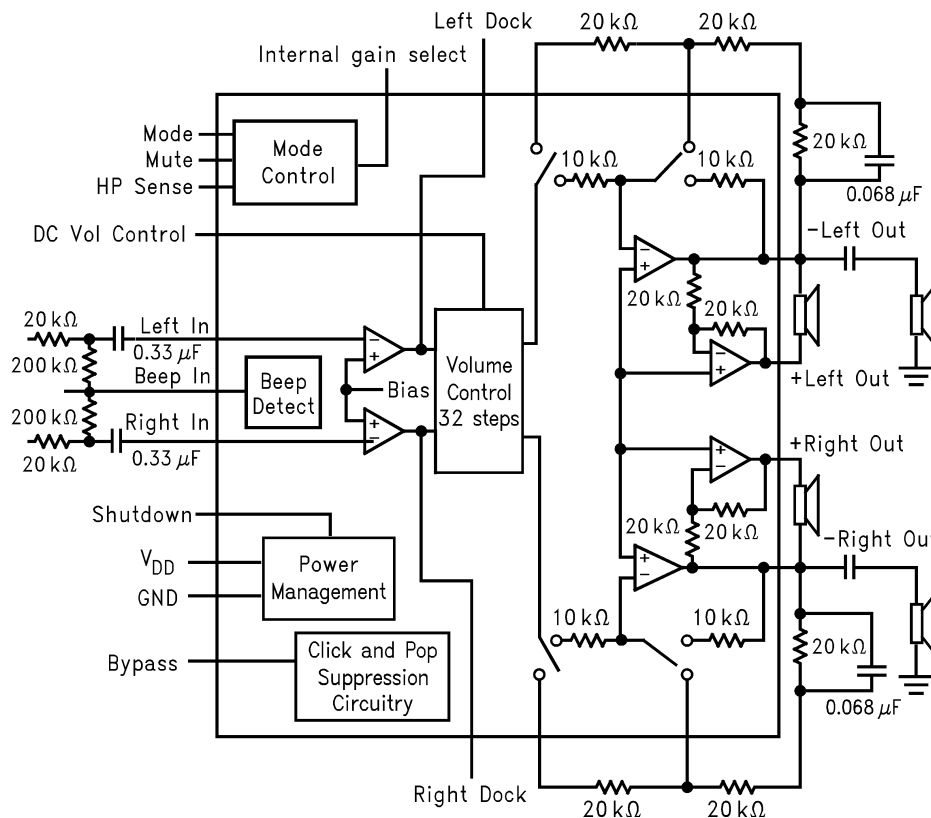

Figure 1. LM4938 Block Diagram
- (1) All voltages are measured with respect to the ground pins, unless otherwise specified. All specifications are tested using the typical application as shown in Figure 1.
- (2) *Absolute Maximum Ratings* indicate limits beyond which damage to the device may occur. *Operating Ratings* indicate conditions for which the device is functional, but do not ensure specific performance limits. *Electrical Characteristics* state DC and AC electrical specifications under particular test conditions which ensure specific performance limits. This assumes that the device is within the Operating Ratings. Specifications are not ensured for parameters where no limit is given, however, the typical value is a good indication of device performance.
- (3) Typicals are measured at $25^\circ C$ and represent the parametric norm.
- (4) Limits are specified to Texas Instruments' AOQL (Average Outgoing Quality Level). Datasheet min/max specification limits are specified by design, test, or statistical analysis.
- (5) When driving 3 Ω loads from a 5V supply the LM4938MH must be mounted to the circuit board and forced-air cooled.
- (6) When driving 4 Ω loads from a 5V supply the LM4938MH must be mounted to the circuit board.